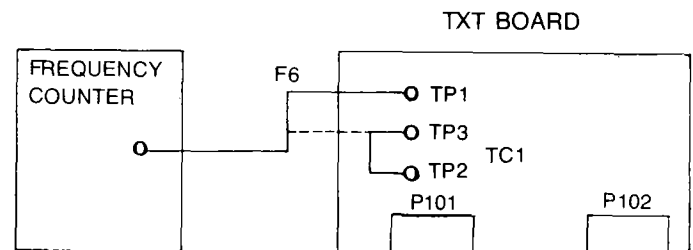

Figure 7. Connection Diagram of the Instruments
- (a) Connect with the Instrument shown as in figure 7. (TP2, TP3 are GND).